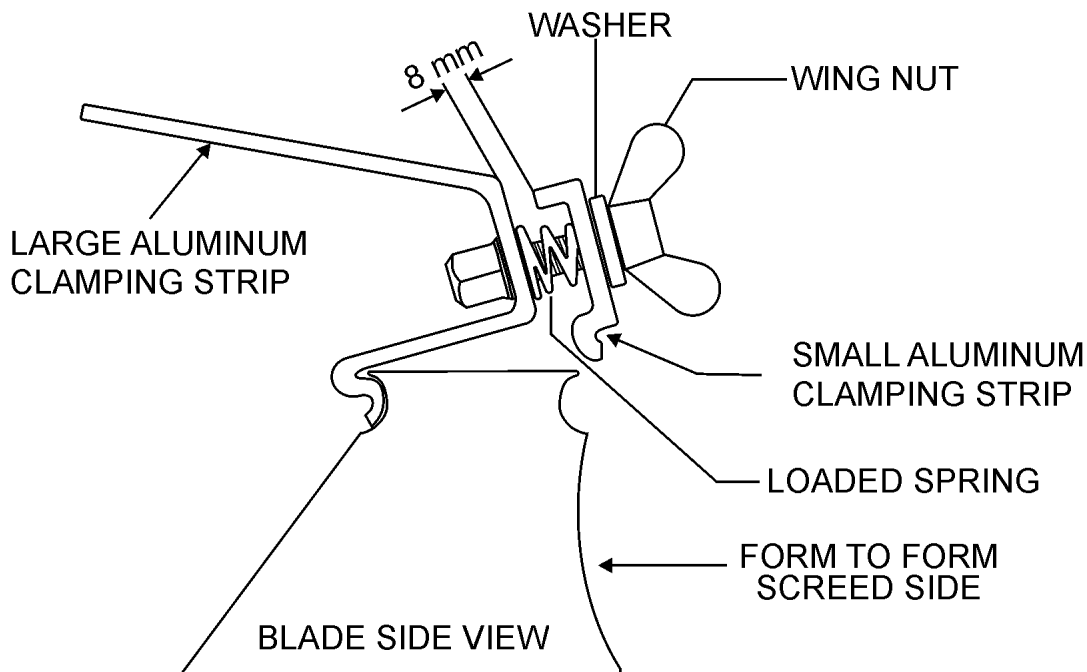

Figure 4. Blade Quick Disconnect System
2. The aluminum clamping strip (retaining plate) is located at the base of the power unit. This clamping strip is what holds the blade in place with the aid of three quick disconnect spring loaded wing nuts (Figure 4) that can either be tightened or loosened by hand.
3. Determine whether you will be using the DuoScreed on forms or as a wet screed. This will decide how the power unit will be mounted. If the DuoScreed will be used as a wet screed the wing nuts should be located above the smooth edge of the blade. If the DuoScreed will be used on forms (Figure 4) the wing nuts should be located above the curled edge of the blade.
Before placing the DuoScreed in concrete, make certain the unit has been set up (blade) for **wet screeding**. This can be verified by observing that the operator's toes are pointing towards the smooth side of the blade (Figure 4), from the operators's position (handle bars).